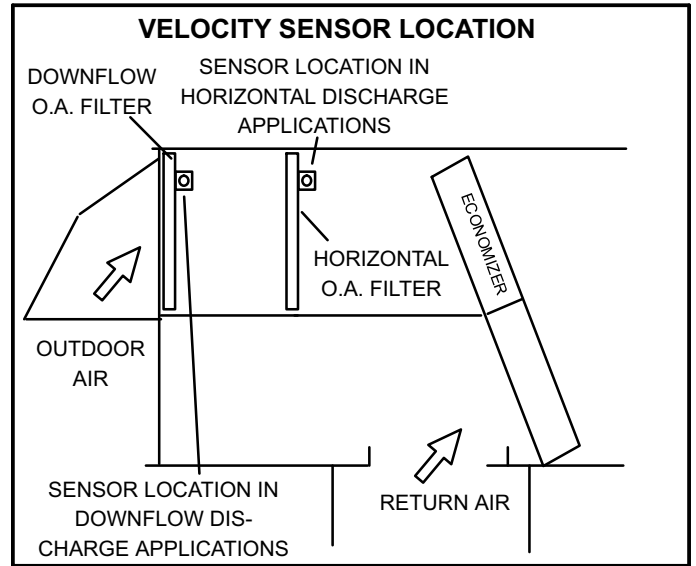
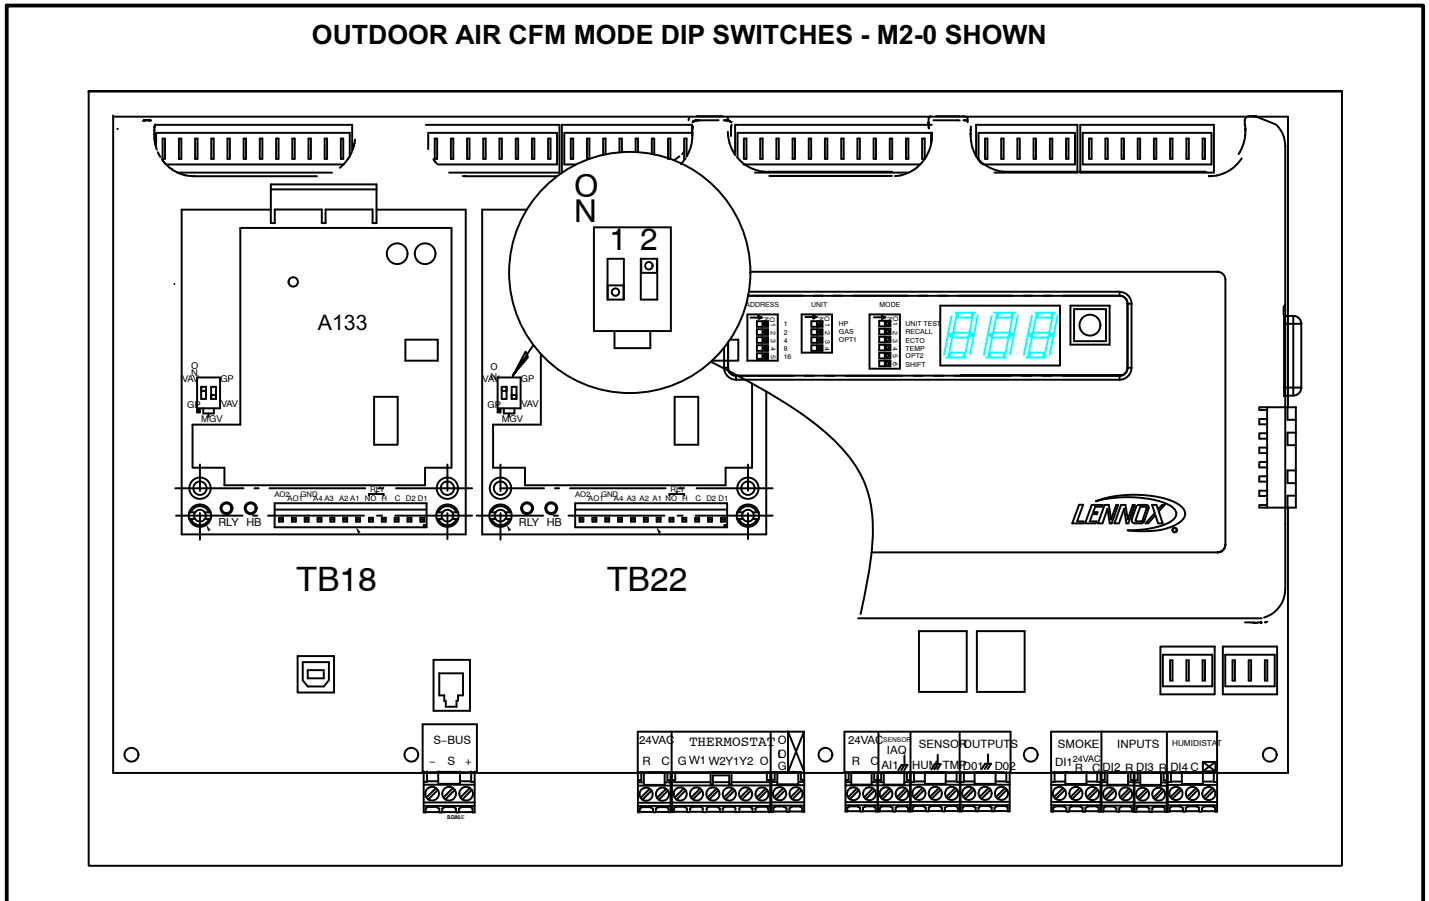
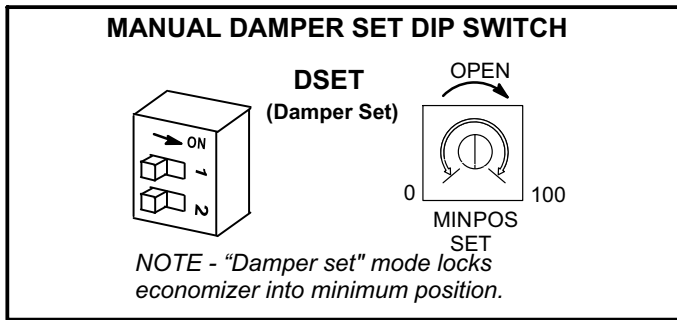

FIGURE 50
FIGURE 51
FIGURE 52
The Unit Controller uses a velocity sensor (A24) and a general purpose add-on board (A133) to modulate dampers. The sensor is located in the outdoor air stream. See figure 50. The board is installed on the Unit Controller. See figure 51.
- 3- Set economizer DIP switch to "DSET" position as shown in figure 52. DIP switch is located on the A55 Unit Controller. See figure 51.
- 4- Adjust the MIN POS SET potentiometer until the air flow hood reads the design minimum outdoor air CFM. See figure 52.